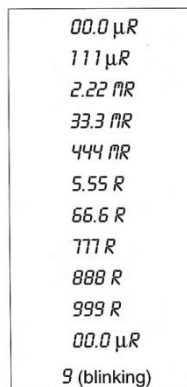

Figure 5 – Test Sequence
- A set of numbers in the following order will appear. Check that all of the numbers are exactly as shown in Figure 5.